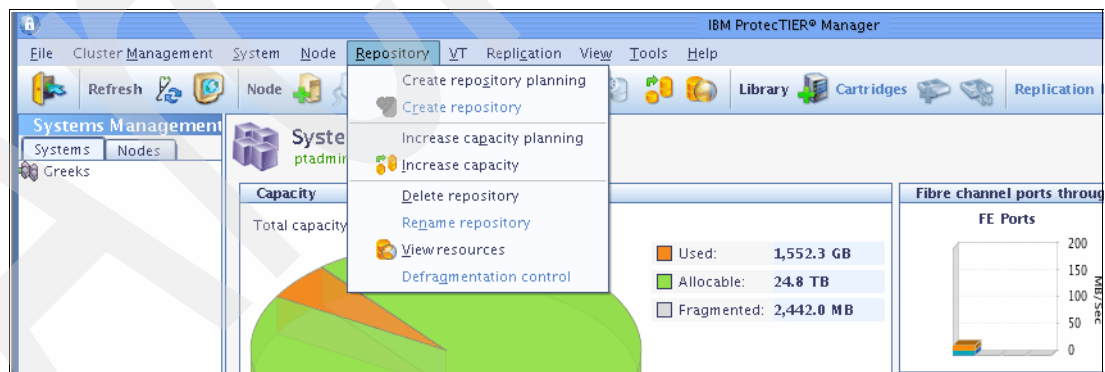

Figure 6-25 PT Manager _Create Repository
2. Select **Repository** → **Create repository planning**; see Figure 6-25 on page 114.